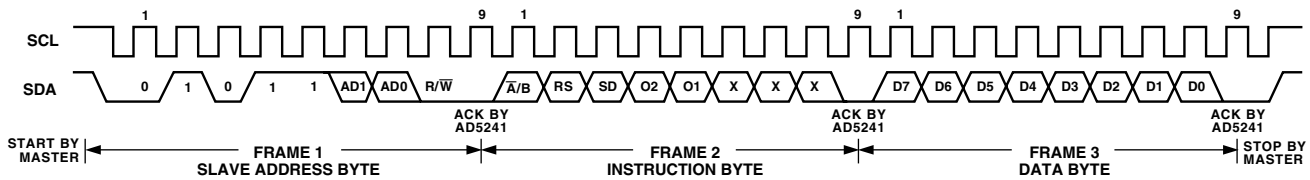

Figure 2. Writing to the RDAC Serial Register
Referring to Figures 2 and 3, the first byte of AD5241/AD5242 is a Slave Address Byte. It has a 7-bit slave address and a RW bit. The 5 MSBs are 01011 and the following two bits are determined by the state of the AD0 and AD1 pins of the device. AD0 and AD1 allow users to use up to four of these devices on one bus.
1. The master initiates data transfer by establishing a START condition, which is when a high-to-low transition on the SDA line occurs while SCL is high, Figure 2. The following byte is the Slave Address Byte, Frame 1, which consists of the 7-bit slave address followed by an RW bit (this bit determines whether data will be read from or written to the slave device). The slave whose address corresponds to the transmitted address will respond by pulling the SDA line low during the ninth clock pulse (this is termed the Acknowledge bit). At this stage, all other devices on the bus remain idle while the selected device waits for data to be written to or read from its serial register. If the RW bit is high, the master will read from the slave device. If the RW bit is low, the master will write to the slave device.
bits are  $O_2$  and  $O_1$ . They are extra programmable logic output that users can use to drive other digital loads, logic gates, LED drivers, and analog switches, etc. The three LSBs are DON'T CARE. See Figure 2.
3. After acknowledging the Instruction Byte, the last byte in Write mode is the Data Byte, Frame 3. Data is transmitted over the serial bus in sequences of nine clock pulses (eight data bits followed by an "Acknowledge" bit). The transitions on the SDA line must occur during the low period of SCL and remain stable during the high period of SCL, Figure 2.
5. When all data bits have been read or written, a STOP condition is established by the master. A STOP condition is defined as a low-to-high transition on the SDA line while SCL is high. In Write mode, the master will pull the SDA line high during the tenth clock pulse to establish a STOP condition (see Figure 2). In Read mode, the master will issue a No Acknowledge for the ninth clock pulse (i.e., the SDA line remains high). The master will then bring the SDA line low before the tenth clock pulse which goes high to establish a STOP condition (see Figure 3).